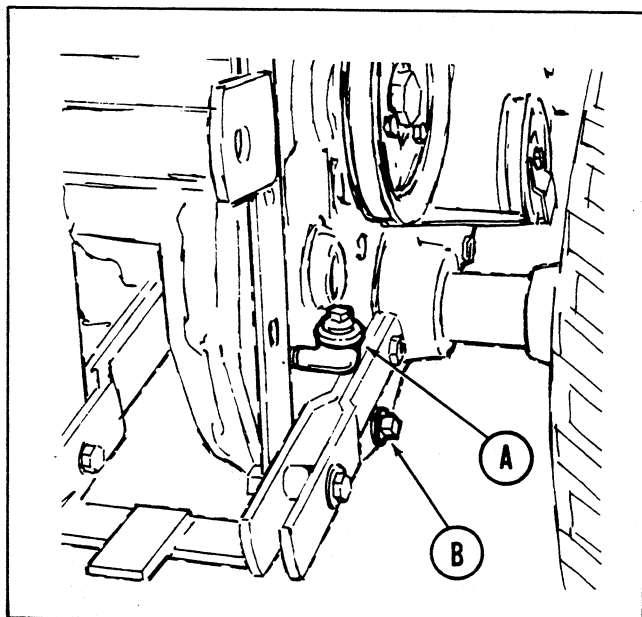

Figure 28. Rear of tractor showing transmission housing.
CHECK TRANSMISSION OIL LEVEL: See figure 28. Remove pipe plug (A) to check the oil level in the axle housing. Oil should be level with the bottom of the threads. If it is not, add SAE 90 weight transmission oil. Replace the plug and tighten it securely.